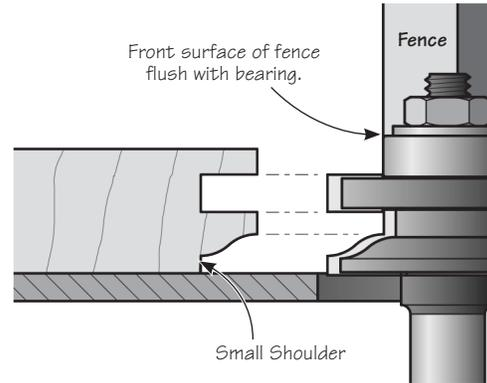

Figure 6: Set-up for sticking cut.
4. Adjust the height of the bit so that a small shoulder will be cut on the inner face of the frame pieces (see **Figure 6**). Set the router table fence flush with the pilot bearing. Rout the inner edge of all the frame pieces (stiles and rails) and both long edges of the mullions and cross-rails.